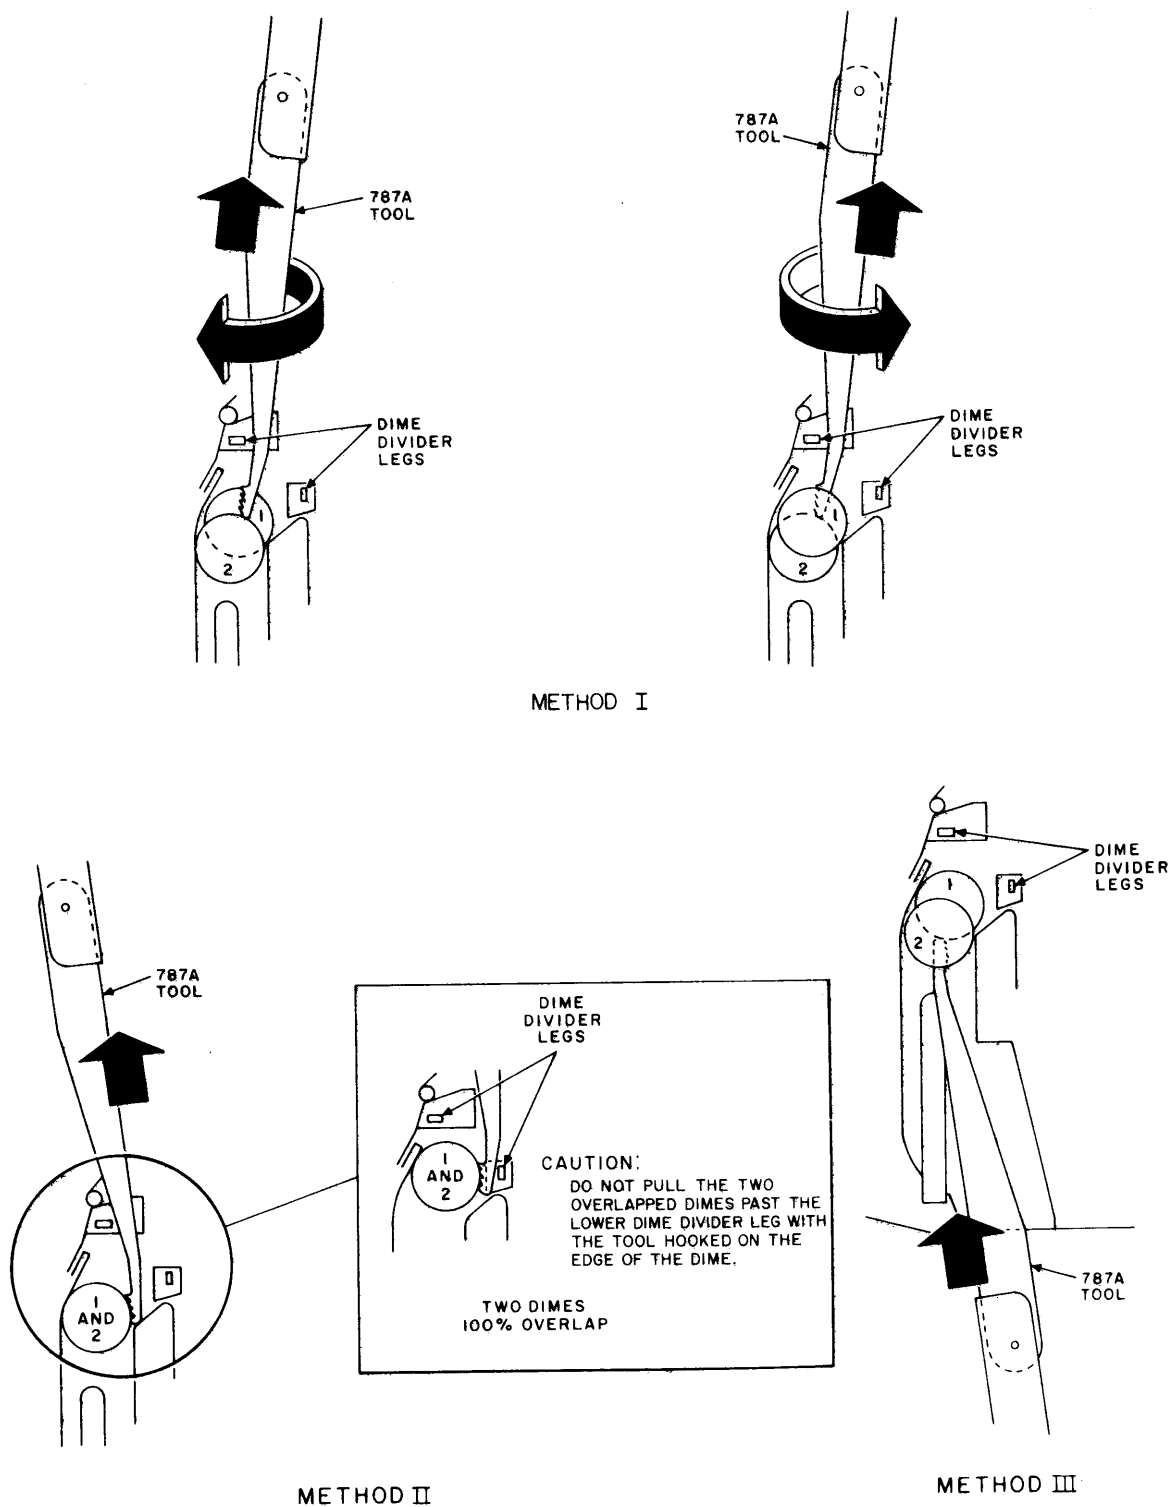

Fig. 54—Method of Removing Jammed Dimes From Chute
(3) **Caution:** Do not pull the two overlapped dimes past the lower dime divider leg with the tool hooked on the edge of the dime. If two dimes are partially overlapped, the top dime can be hooked on the face and pulled out as shown in Method I in Fig. 54.
(a) Begin unjamming the dimes by inserting the 787A tool as shown in Method II in Fig. 54, hooking onto the edge of the dime, and pulling up.
(b) Shake out the dimes lodged below the overlapped dimes if the overlapped dimes move up together as shown in Method II in Fig. 54. Access to the overlapped dimes is through the channel from below as shown in Method III in Fig. 54. Once the two dimes become only partially overlapped (Method III), utilize Method I to finish extracting them.